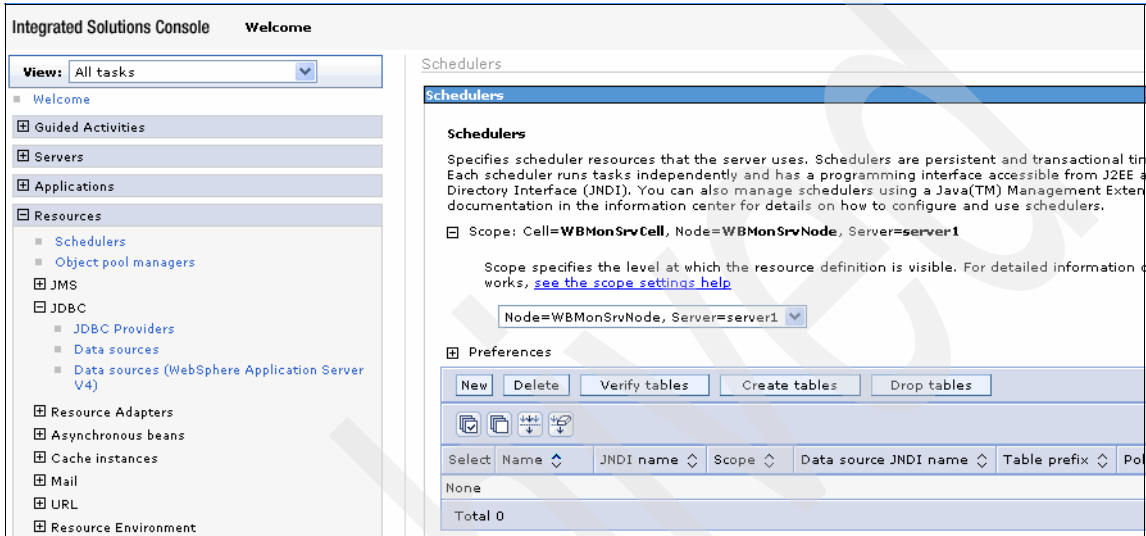

Figure 9-32 Setting the scheduler scope
1. In the Integrated Solutions Console (Figure 9-32), select **Resources** → **Scheduler**. In the right pane, set scope to **server**. Click **New** to create a new scheduler.